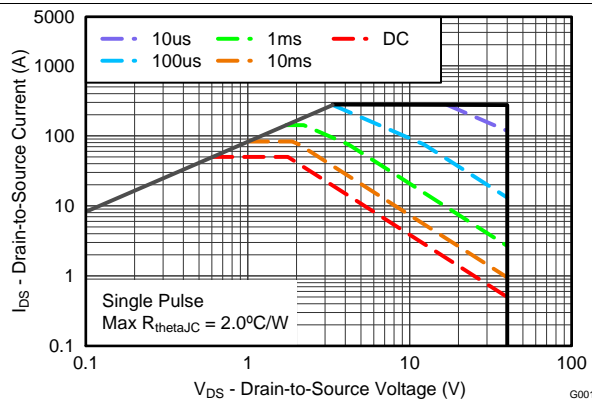

Figure 10. Maximum Safe Operating Area
- Updated the SOA in Figure 10 ..... **6**